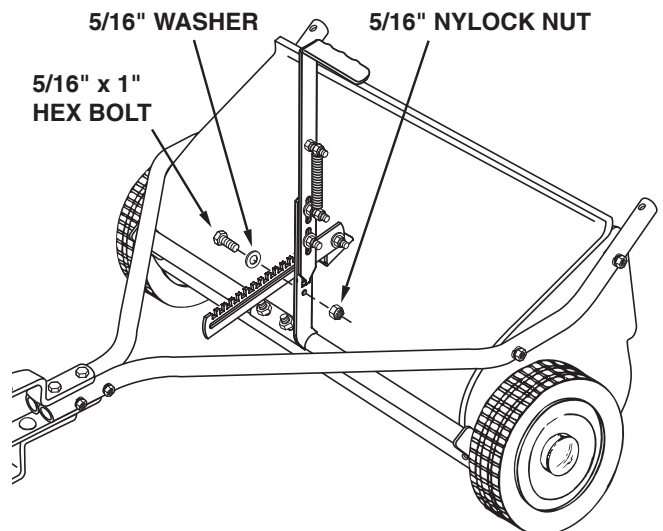

FIGURE 11
- Attach the height adjust strap to the height adjust handle using a 5/16" x 1" hex bolt, 5/16" washer and 5/16" nylock nut. Place the washer against the slot in the height adjust strap. Tighten the nut and then loosen 1/2 turn so that the strap can slide freely. See figure 11.
- Slide the height adjust handle so that it aligns with the height adjust strap and the angle bracket. Tighten the height adjustment handle in place. See figure 11.